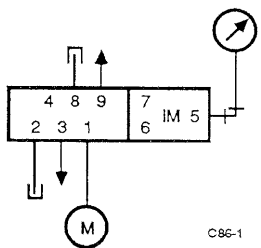

Fig. 9. Connections for RP920B and D Compensation Startpoint Check.
1. Pipe the connections (Fig. 9).